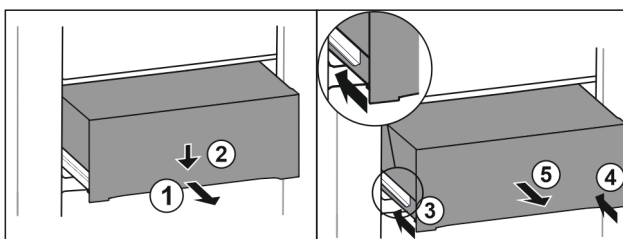

Fig. 100
- ▶ Pull out drawer half-way. Fig. 100 (1)
- ▶ Push the drawer down at the front. Fig. 100 (2)
- ▶ Push the left rail in by about 2 cm. Fig. 100 (3)
- ▶ Push the right rail in by about 2 cm. Fig. 100 (4)
- ▶ Remove drawer to the front. Fig. 100 (5)